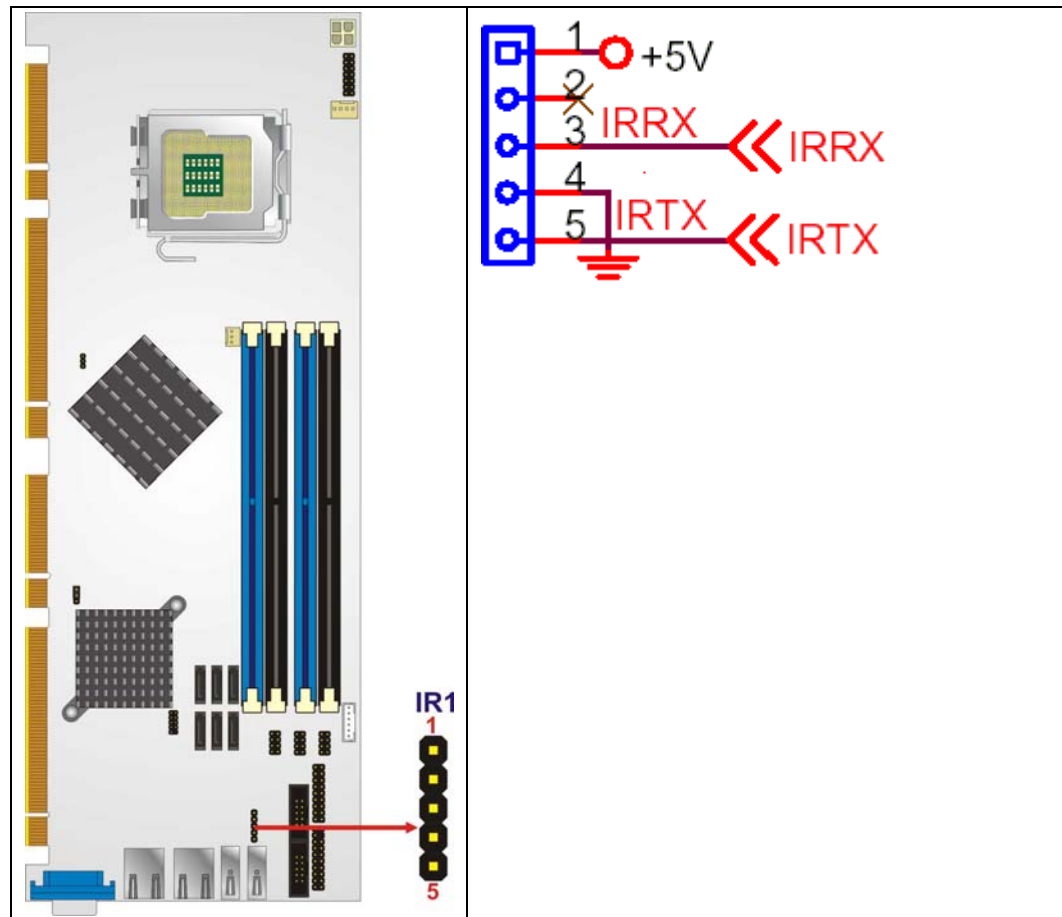

Figure 4-8: Infrared Connector Pinout Locations
- CN Location:** See Figure 4-8